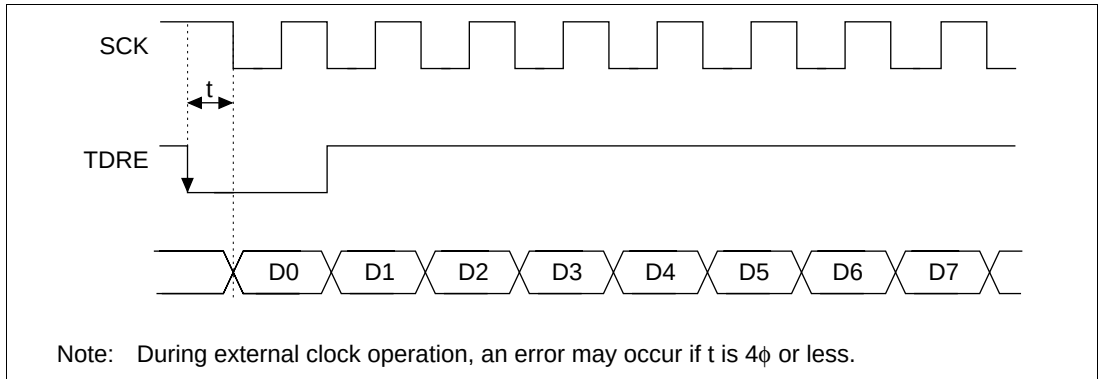

**Figure 13.22 Example of Synchronous Transmitting with DMAC**
- When using an external clock source for the serial clock, update TDR with the DMAC, and then input the transmit clock after the elapse of five system clocks or more. If a transmit clock is input in the first four system clocks after TDR is written, an error may occur (figure 13.22).
- Before reading the receive data register (RDR) with the DMAC, select the receive-data-full interrupt of the SCI as an activation source using the resource select bit (RS) in the channel control register (CHCR).